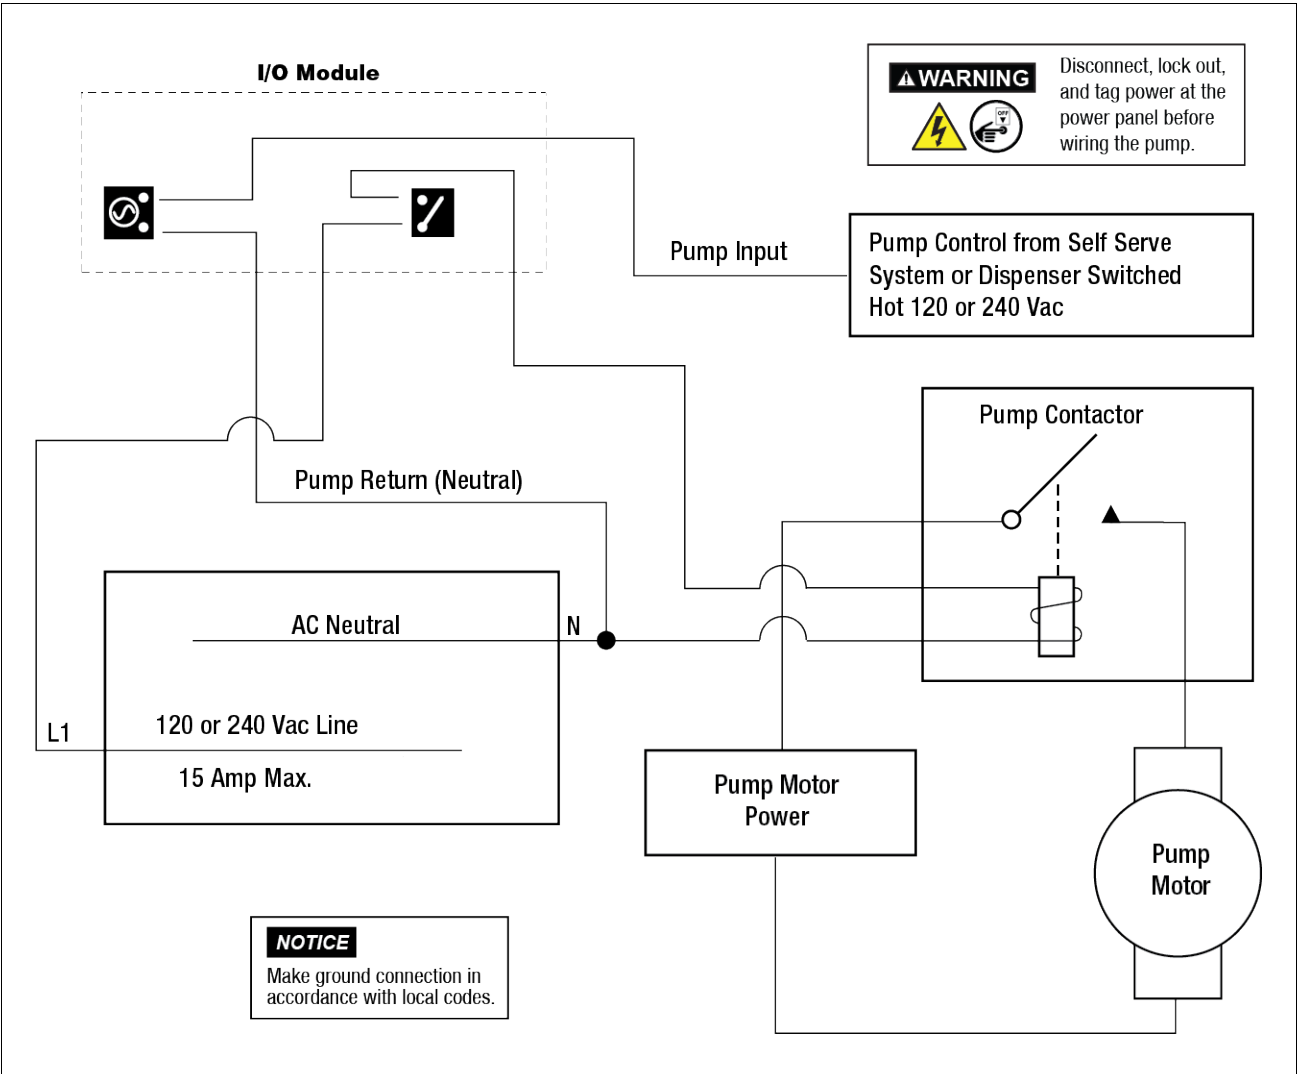

Figure 23. DPLLD Pump Control Diagram For Non-Red Jacket Relay Control Box
- Non-Red Jacket (ref. Figure 23)